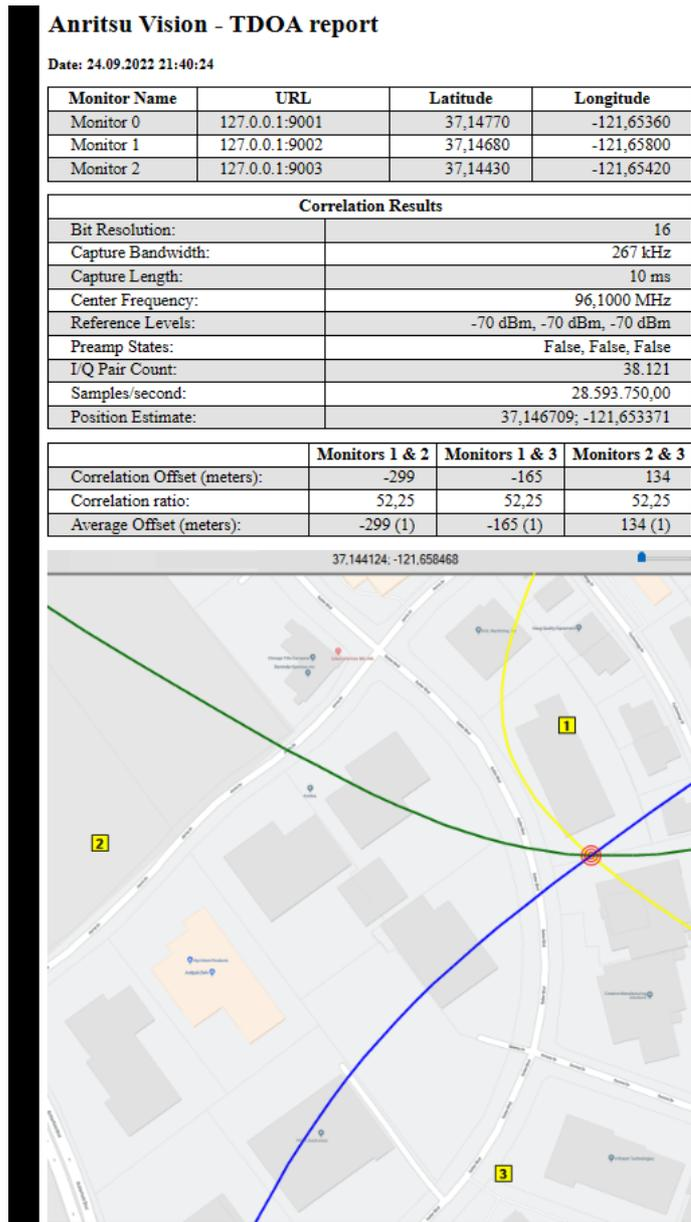

Figure 13-3. TDoA Report
9. Click the Report button to show measurement details as shown in Figure 13-3.